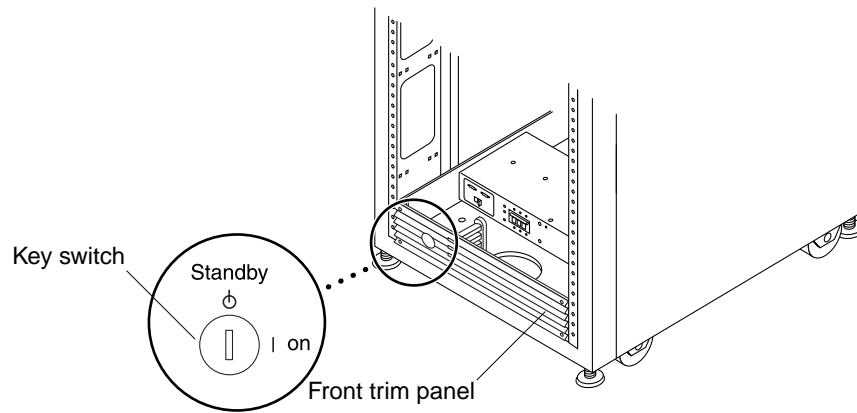

FIGURE 3-1 Location of Key Switch on Bottom Front Panel
1. **Verify that the key switch located at the bottom front of the storage system is in the Standby position (FIGURE 3-1).**